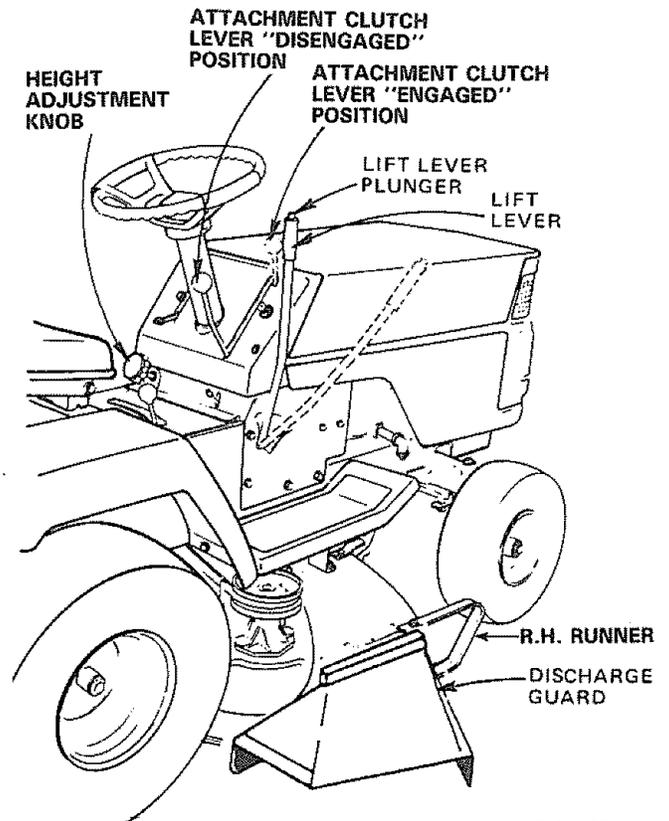

FIGURE 17
- Use the runner on the R.H. side as a guide; the blade cuts approximately an inch outside the runner (Fig. 17).
Your mower has a flip-up discharge guard (Fig. 17) for door or gate clearance when held in raised position.